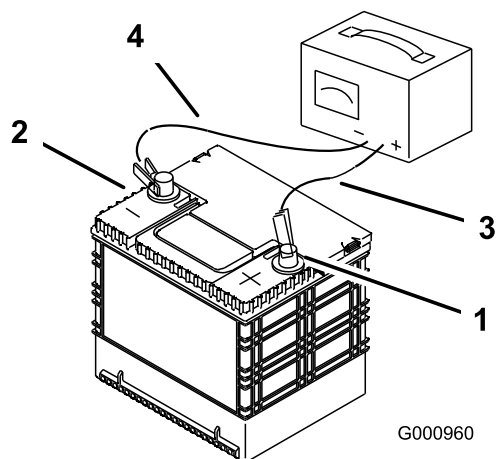

Figure 47
2. When the battery is fully charged, unplug the charger from the electrical outlet, then disconnect the charger leads from the battery posts (Figure 47).